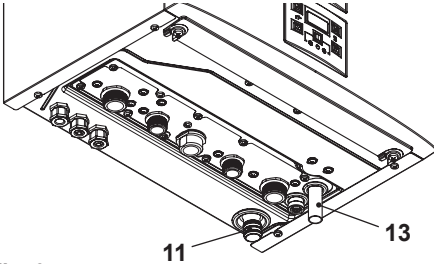

Fig. 6.4
- Connect the pipe 13 (Fig. 6.4) from the pressure relief valve to the safety discharge pipework.
- Fit the condensate drain 11 (Fig. 6.4) in to the drainage pipework.